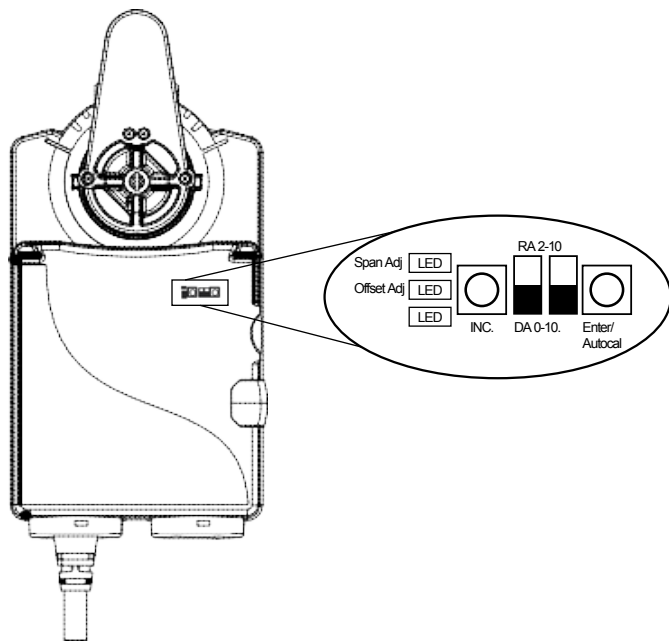

Figure 14: DIP Switches and LEDs Placement
To complete the auto calibration process, press **Enter/Autocal** until all three LEDs are on. See Figure 14 for viewing the DIP switches and LEDs.
1. Set DIP switch one and two before proceeding. See Figure 14 for DIP switch placement.